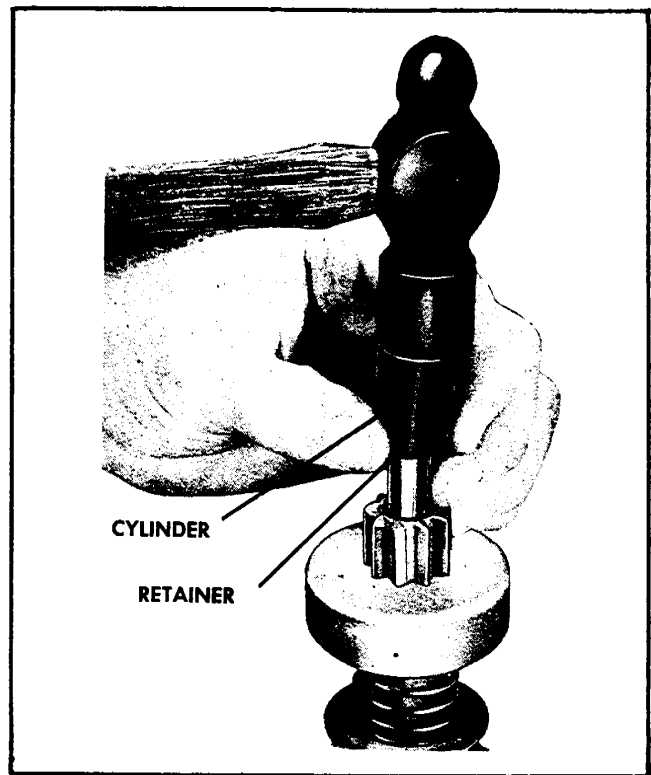

Fig. 129--Removing Retainer from Snap Ring
5. Remove the pinion from the armature by sliding a metal cylinder onto the shaft, with a hammer striking the metal cylinder against the retainer, drive the retainer towards the armature core and off the snap ring. See Fig. 129.